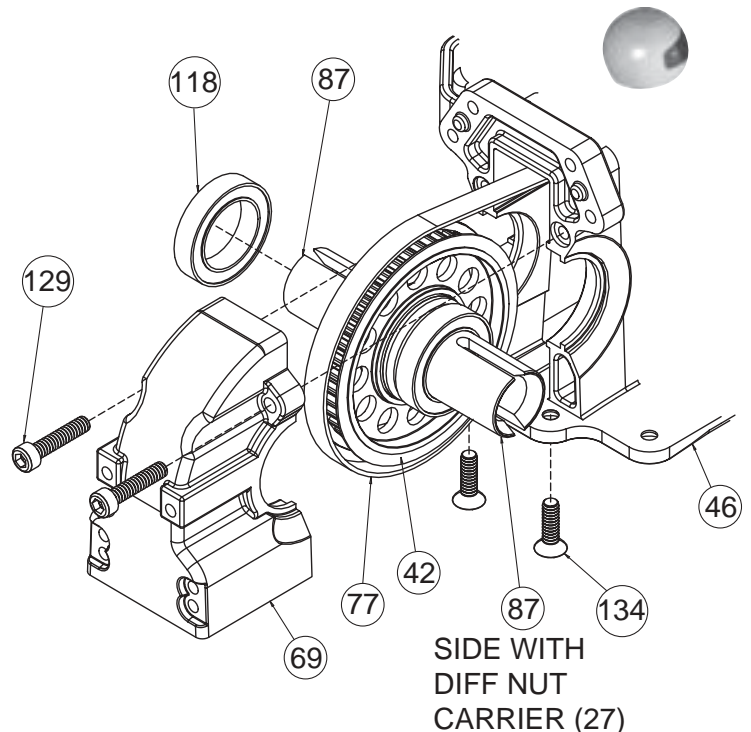

Figure 23
1. Slide one 1/2" x 3/4" bearing (118) over each of the outdrive cups (87),(87) with the teflon seal facing away from the diff pulley (42) on the remaining differential.
2. Spread the belt (77) apart and install the diff assembly into the slots of the chassis (46) as indicated in Figure 23. Once the diff assembly is in place, pull the slack up through the center of the chassis from the top side.
3. Secure the diff assembly by installing the rear diff cover (69) with two 4-40 x 1/2" cap head screws (129) through the diff cover into the counter-bored holes in the rear of the chassis.
4. Flip the chassis over and install the two 4-40 x 3/8" flat head screws (134) through the bottom of the chassis into the rear diff cover as indicated in Figure 23.